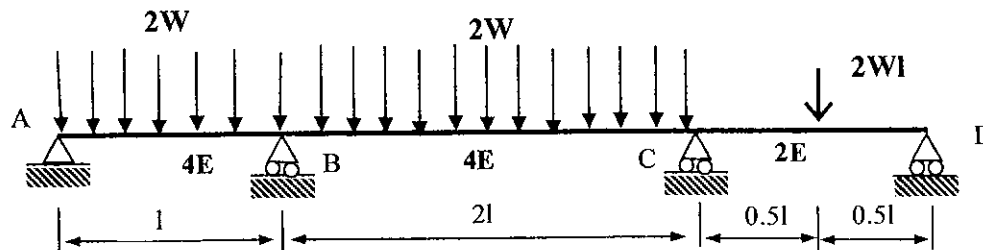

Figure Q5
- (ii) A continuous beam (ABCD) is shown in Figure Q5. Flexural rigidities of members AB and BC are equal to $4EI$ and member CD is $2EI$. Uniformly distributed load ($2W$) is acting on members, AB and BC. There is a concentrated load ($2Wl$) in member CD.